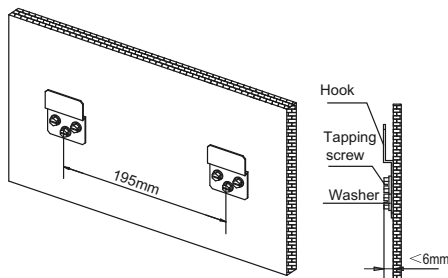

Fig.50-4
- Fix the hook with tapping screw onto the wall. (Refer to Fig.50-4)